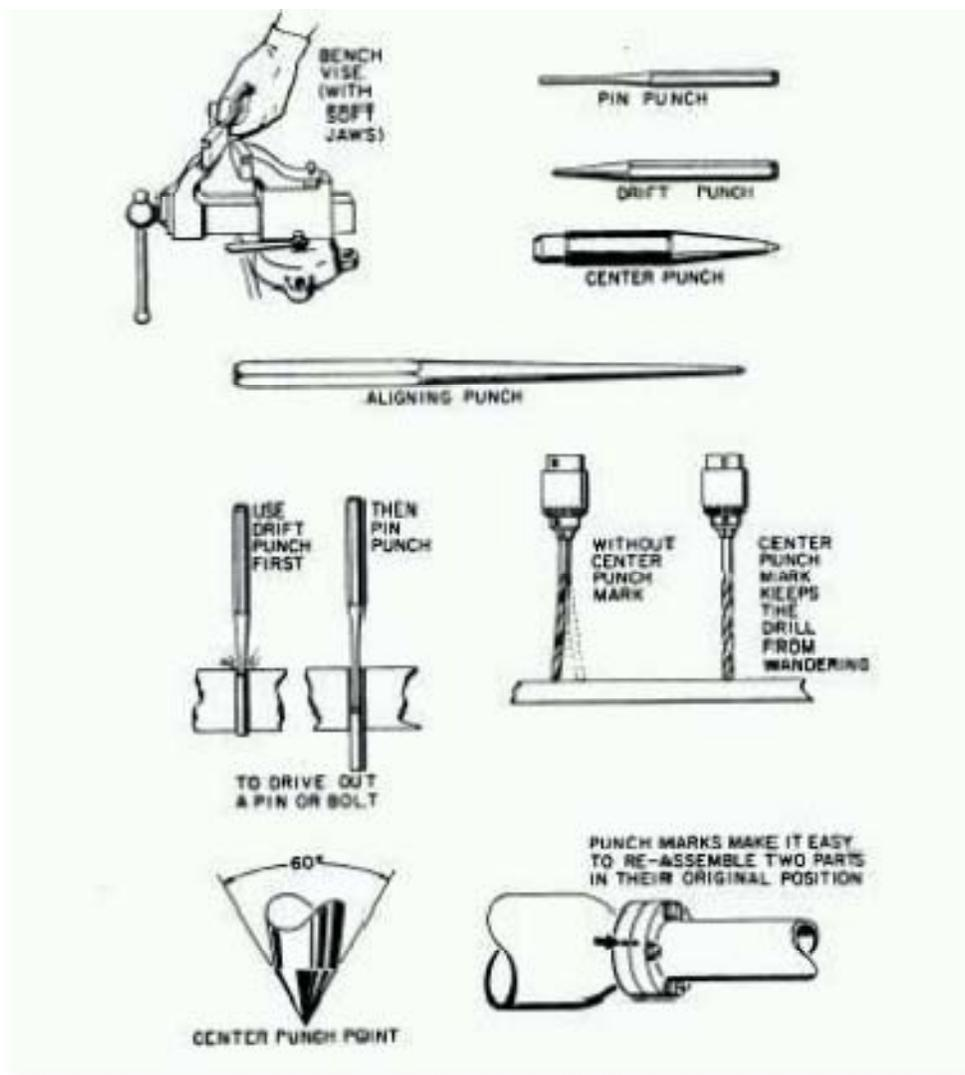

Figure 8-16. Holding Devices and Punches
**NOTE:** On bench vises soft jaws are sometimes needed to protect part. (See Figure 8-16.)
Punches are used to locate centers for drawing circles, to start hole for drilling, to punch hole in metal sheets, and to drive out pins or bolts. (See Figure 8-16.)